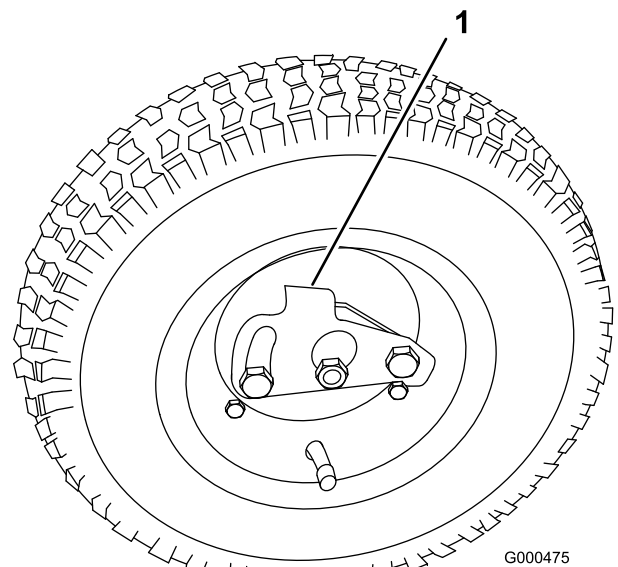

Figure 8
2. Press the wheel locking clip toward the center of wheel and slide the wheel onto the hex shaft (Figure 8).